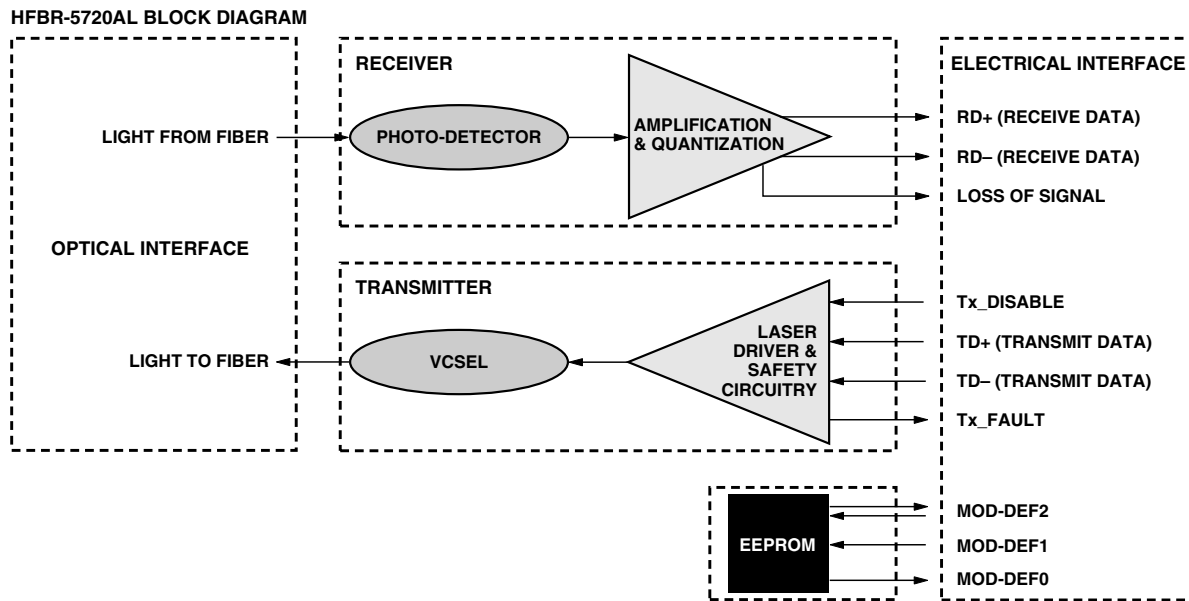
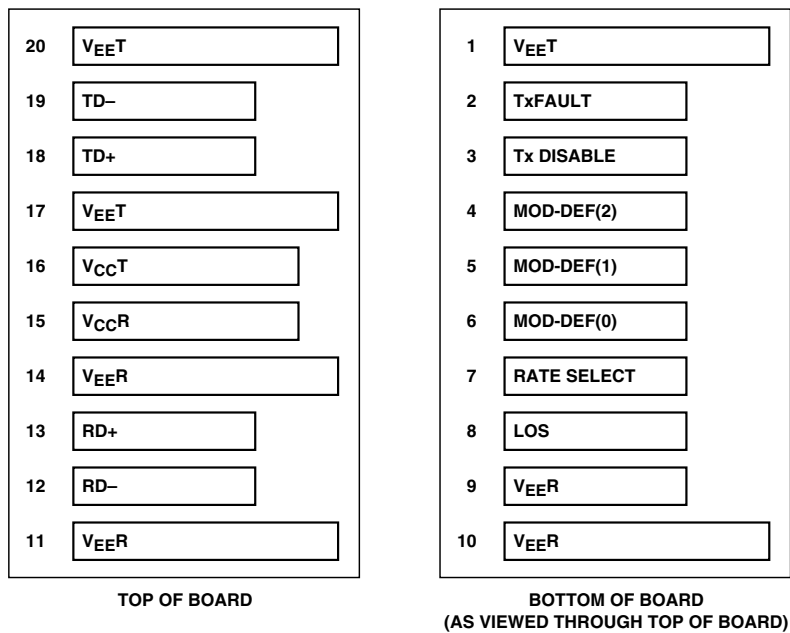

Figure 1. Transceiver functional diagram.
Figure 2. Connection diagram of module printed circuit board.
Figure 1 illustrates the major functional components of the HFBR-5720AL/ALP. The connection diagram of the module is shown in Figure 2. Figure 7 depicts the external configuration and dimensions of the module.
The HFBR-5720AL/ALP can be installed in or removed from any MultiSource Agreement (MSA)-compliant Small Form Pluggable port regardless of whether the host equipment is operating or not. The module is simply inserted, electrical interface first, under finger pressure. Controlled hot-plugging is ensured by design and by 3-stage pin sequencing at the electrical interface. The module housing makes initial contact with the host board EMI shield mitigating potential damage due to Electro-Static Discharge (ESD). The 3-stage pin contact sequencing involves (1) Ground, (2) Power, and then (3) Signal pins, making contact with the host board surface mount connector in that order. This printed circuit board card-edge connector is depicted in Figure 2.
Agilent’s HFBR-5720AL/ALP fiber-optic transceiver is designed to accept industry standard differential signals. In order to reduce the number of passive components required on the customer’s board, Agilent has included the functionality of the transmitter bias resistors and coupling capacitors within the fiber optic module. The transceiver is compatible with an “AC-coupled” configuration and is internally terminated. Figure 1 depicts the functional diagram of the HFBR-5720AL/ALP.